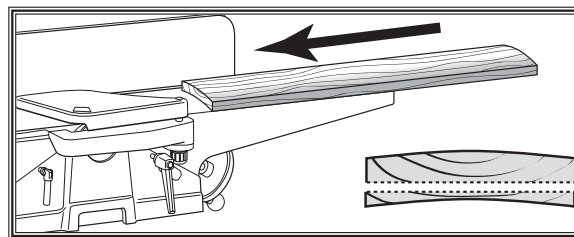

Figure 30. Surface plane on the jointer.
1. **Surface Plane On The Jointer:** The concave face of the workpiece is surface planed flat with the jointer (Figure 30).